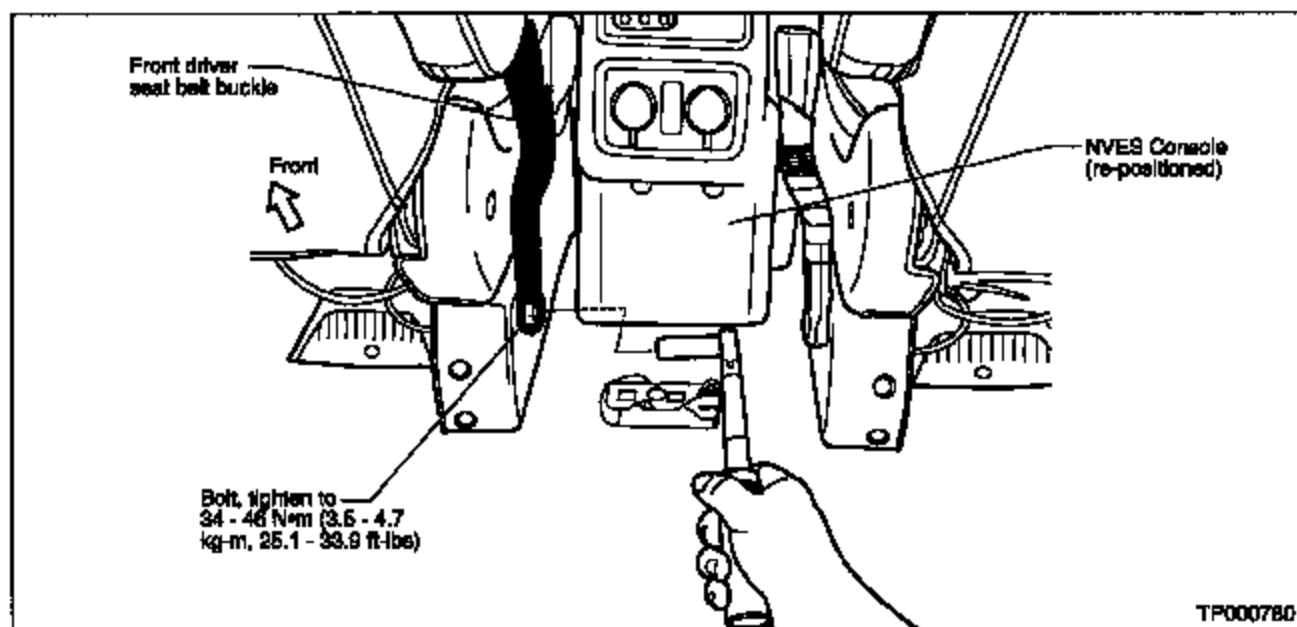

Figure 21
- B. Install the seat belt buckle and tighten the mounting bolt to 34 – 46 Nm (3.5 – 4.7 Kg-m, 25.1 – 33.9 ft-lbs). See Figure 21.